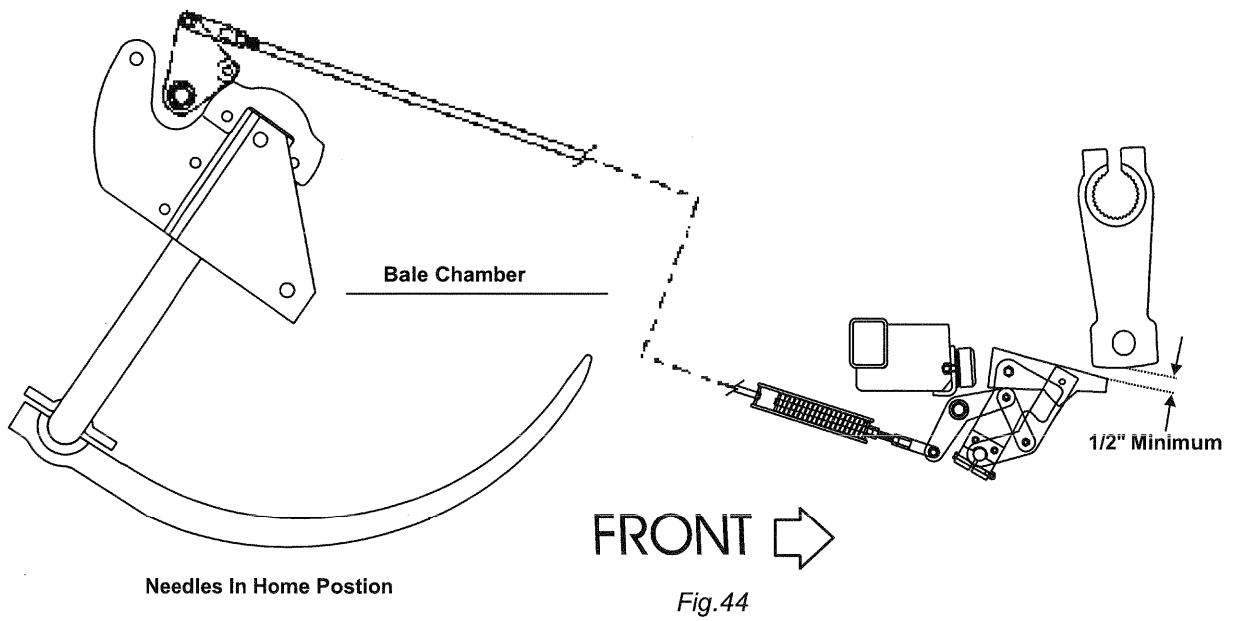

Fig. 44
A. Fig.44 shows the correct operating clearance of approximately 1/2" (13 mm), between the plunger cranks and the stop dogs, after the needles are returned to the home position.